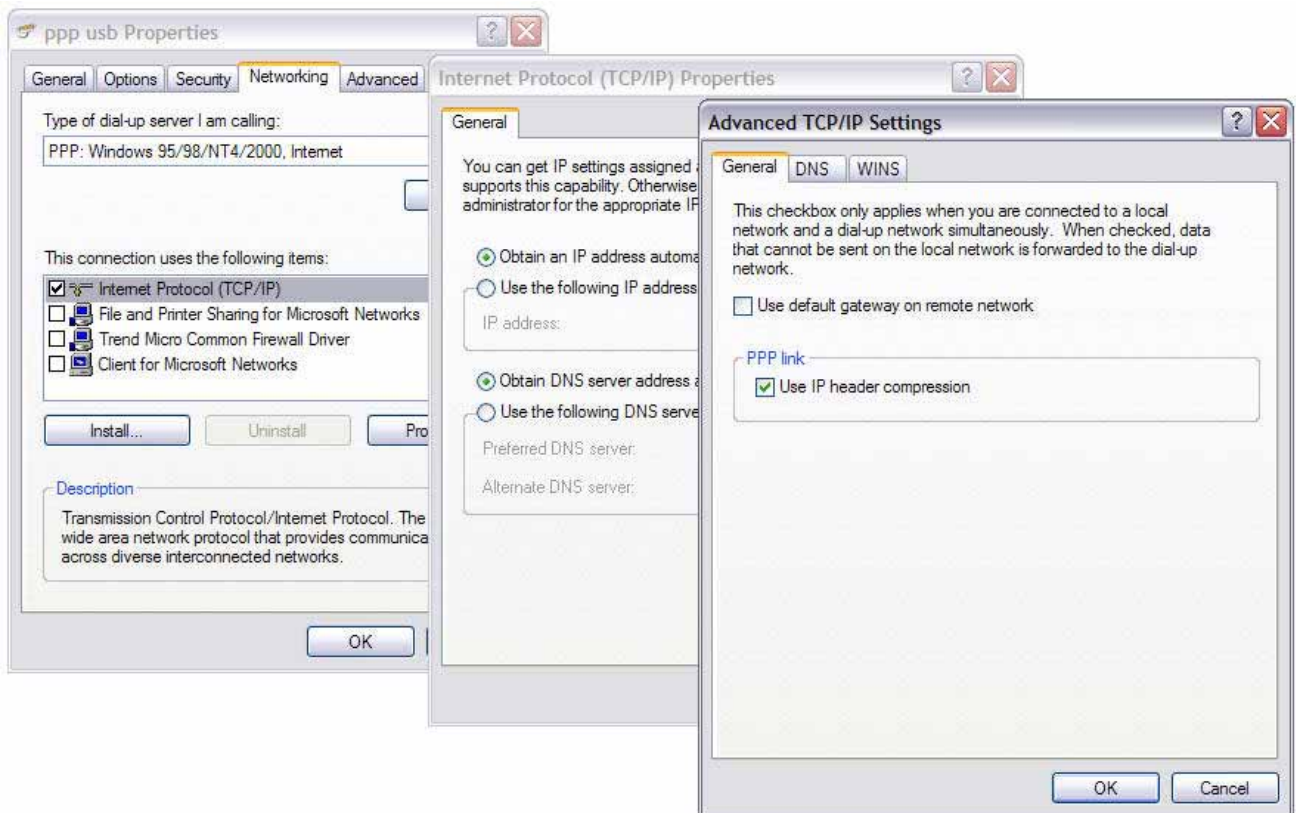

Figure 89: TCP/IP Settings – uncheck the **Use Default Gateway** option
Check the settings against those shown in *Figure 89*. In particular, the **Use default gateway** option should be disabled. If this is not done then Windows will attempt to use the PPP connection as its default Internet connection, the end result being that the Internet will not be accessible from your computer while a PPP connection to the *DT80* is in progress. (If your computer does not have an Internet connection then this step can be ignored.)
5. Click **Advanced** to display the **Advanced TCP/IP Settings** dialog (*Figure 89*). As with the direct connection, the **Use default gateway** option should be disabled to prevent Windows from attempting to use the PPP connection as its default Internet connection.